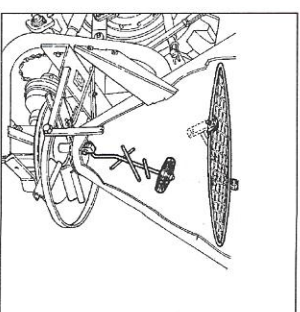

Fig. 12
- Articulated agitator kit for powder fertilizers (Fig. 12)